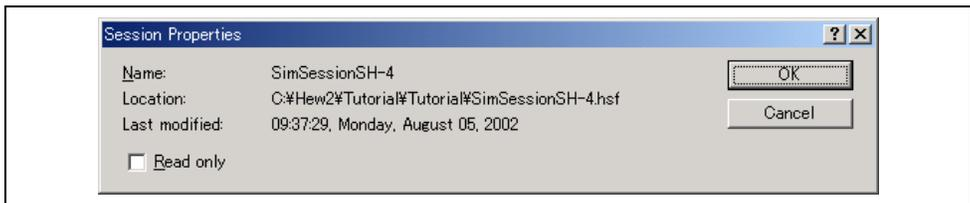

Figure 3.21 Session Properties Dialog Box
3. Click the [Properties] button to display the [Session Properties] dialog box (figure 3.21).